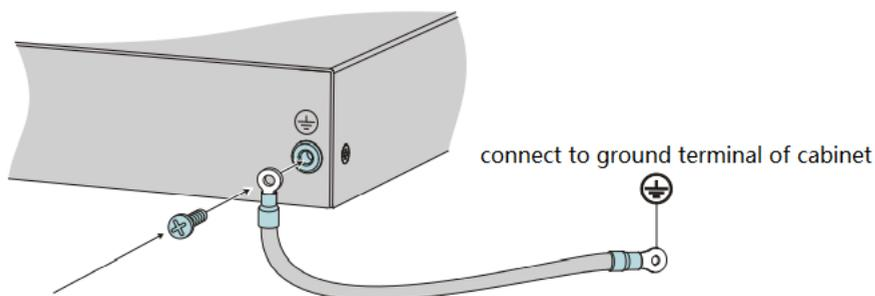

Figure 11: Grounding the device
- Install the grounding screw at the rear of the device to the protective conductor, see Figure 11.